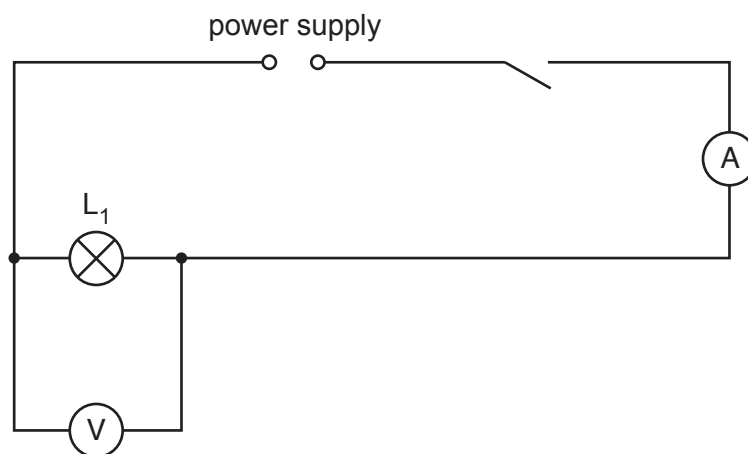

Fig. 2.1
- (ii) Three identical lamps in suitable holders, labelled 'L1', 'L2' and 'L3'. Any low voltage lamps will suffice, provided that they glow when connected as shown in Fig. 2.1.
- (vi) Sufficient connecting leads to construct the circuit shown in Fig. 2.1, with two additional leads. See note 3.
1. The components are to be connected by the supervisor as shown in Fig. 2.1.
Set up the circuit so that it is arranged as shown in Fig. 2.1.